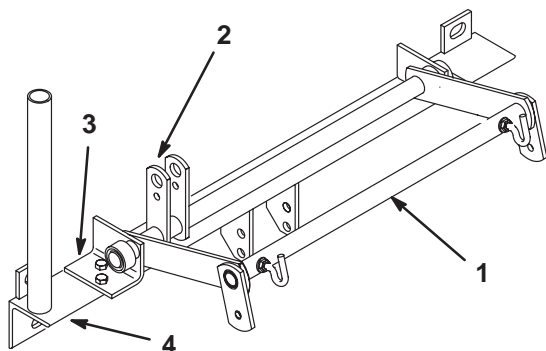

Figure 2
3. Mount the lift arm assembly to the left and right wheel motor mounts with the fasteners that you previously removed (Fig. 2).
1. Remove the 4 cap screws and locknuts that secure the lift arm brackets to the lift arm angle (Fig. 2).